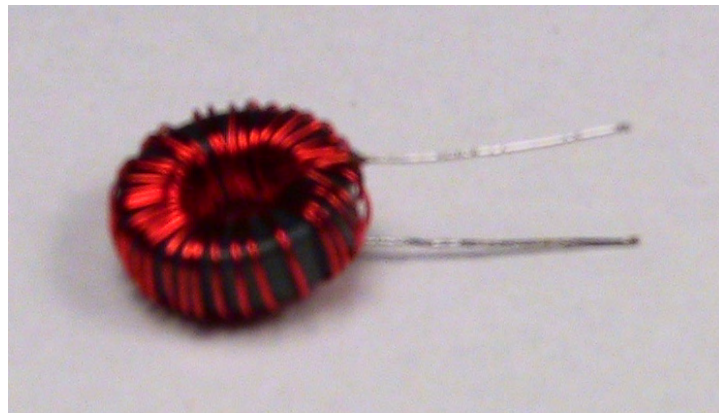

Figure 7 Tinned Inductor Leads
- Trim the leads to 1/2". Tin them using a soldering iron and solder, as shown in Figure 7. Make sure the varnish is removed all the way up to the edge of the toroid.